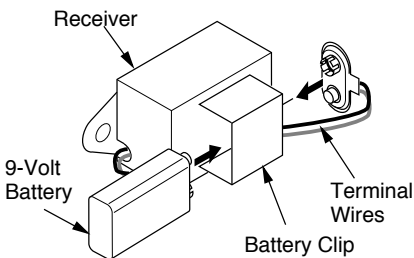

Figure 28 - Attaching Battery to Receiver
2. Locate battery clip mounted on back of receiver (see Figure 28).